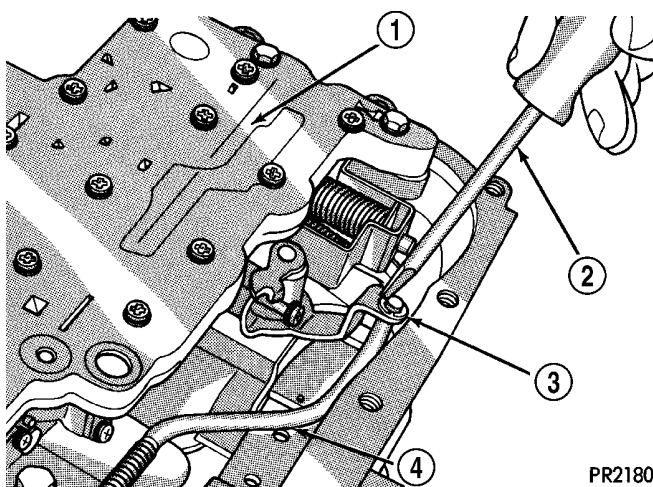

Fig. 6 Parking Rod E-Clip
(6) Remove neutral starting and back-up lamp switch.
(7) Remove park rod retainer e-clip (Fig. 6).